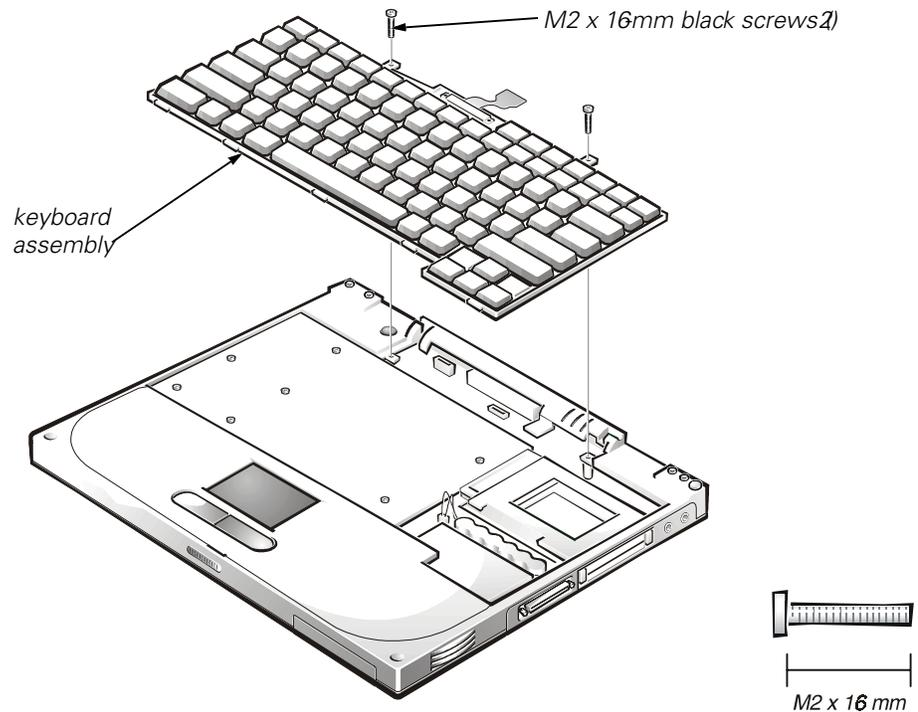

Figure 13. Removing the Keyboard-Assembly Screws
2. Remove the keyboard (see Figure 13).
2. Remove the two black M2 x 16-mm screws located at the top of the keyboard (see Figure 13).
5. Remove the keyboard assembly (see Figure 13).
3. Remove the keyboard assembly (see Figure 13).
1. Remove the keyboard assembly (see Figure 13).